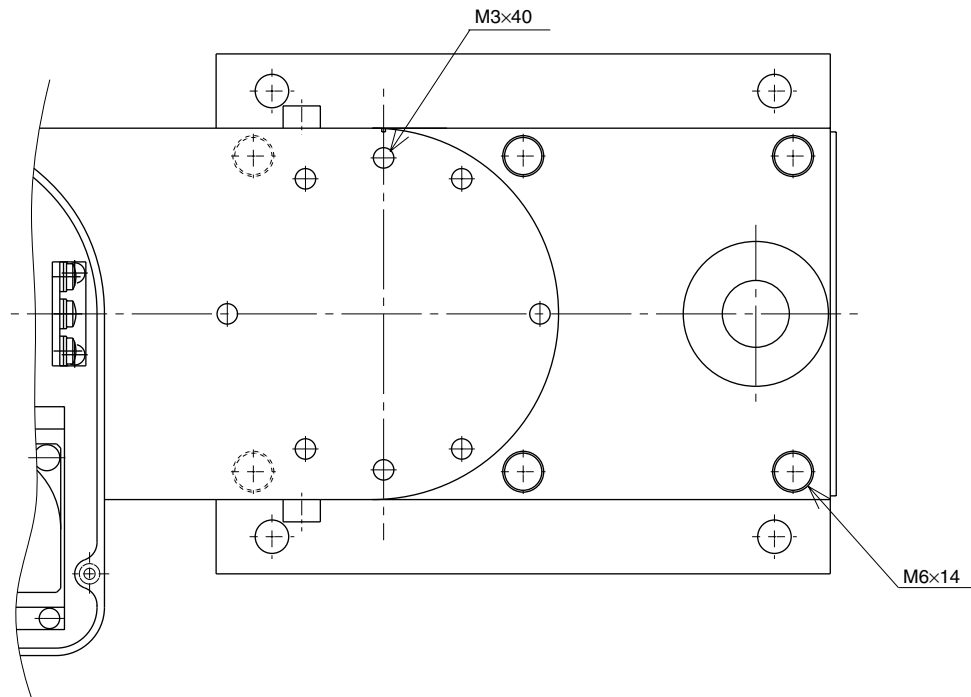
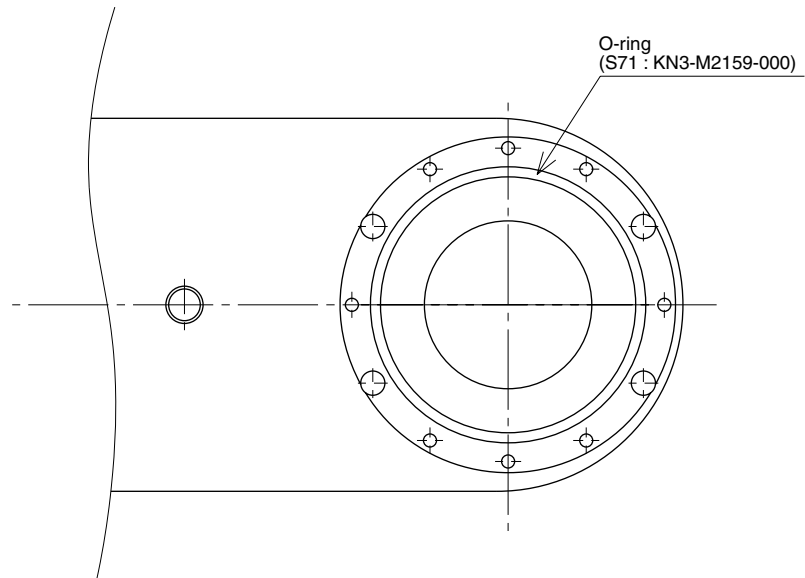
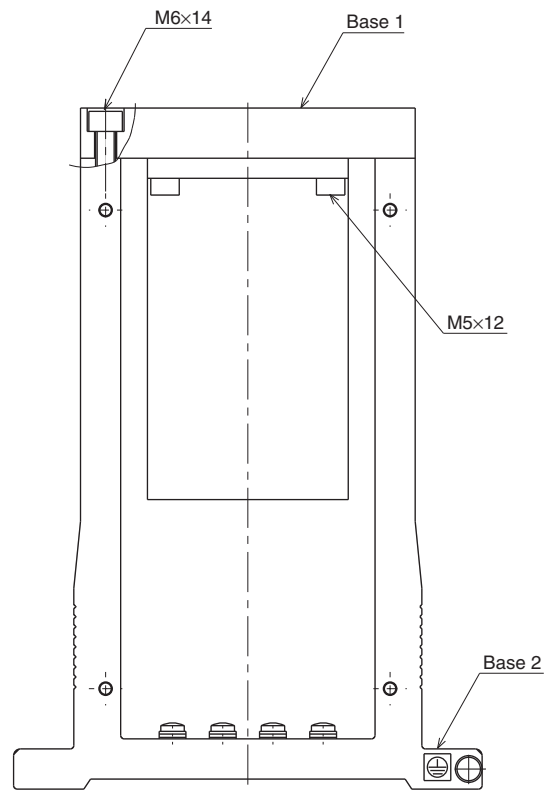

Fig. 5-1
Fig. 5-2
Fig. 5-3
- 6) Remove the X-axis arm installation bolts (M3×40L, 8 pieces). (See Fig. 5-1.)
AN O-RING IS FITTED TO THE X-AXIS ARM, SO BE CAREFUL NOT TO LET IT DROP INTO THE PERIPHERAL UNIT. (SEE FIG. 5-2.)
- 8) Remove the base assembly bolts (M6×14L, 6 pieces) to separate base 1 and base 2. (See Fig. 5-1 and Fig. 5-3.)
- 17) Fasten base 1 to base 2 with the bolts (M6×14L, 6 pieces) you removed earlier. (See Fig. 5-3.)
- 19) Fit a new O-ring into the O-ring groove on the X-axis arm and place the arm on the harmonic drive. Then, apply small amounts of “Screw Lock” to the bolts (M3×40L, 8 pieces) you removed earlier and tighten them uniformly to secure the X-axis arm to the base. (See Fig. 5-1 and Fig. 5-2.)